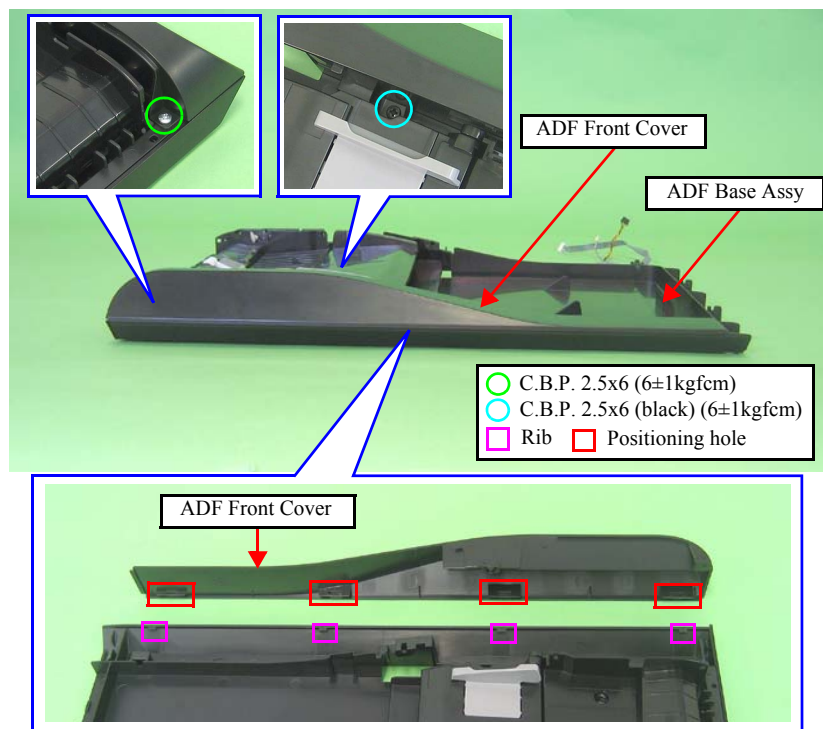

Figure 4-189. Removing the ADF Front Cover
**When removing the ADF Front Cover, be careful not to damage the positioning holes (x4) of the ADF Front Cover shown in Fig. 4-189.**